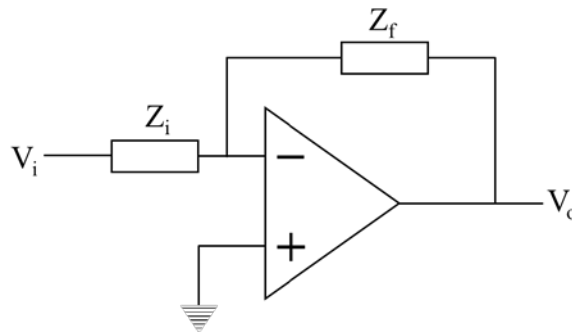

Figure 2-3 Operational amplifier circuit for part 2 of the prelab
2. Determine the transfer function, V_o/V_i and the function that the operational amplifier is performing in Figure 2-3 below for the impedance parameters listed below